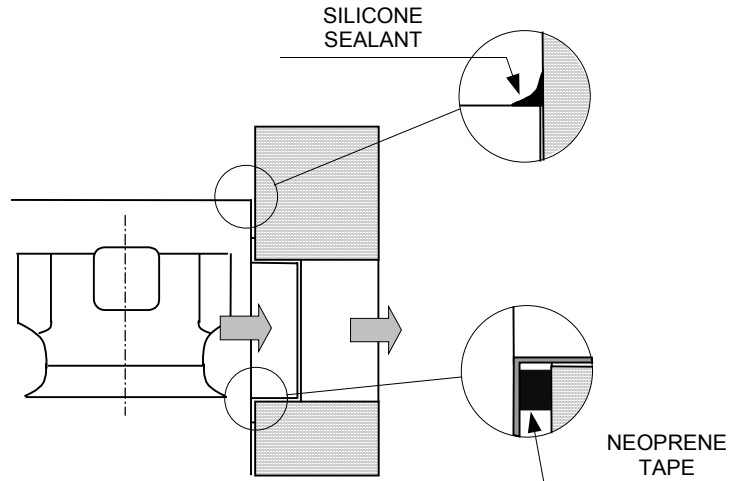

Fig. 10
4. Fix rubber seals around the mouths of the air intake and discharge to ensure an airtight fit; 18-20mm thick self-adhesive closed-cell neoprene rubber tape is recommended (see fig. 10.);
11. Apply a layer of builder's silicone to the joint between the top cover of the unit and the wall to prevent rain from entering the gap (see fig. 10.).